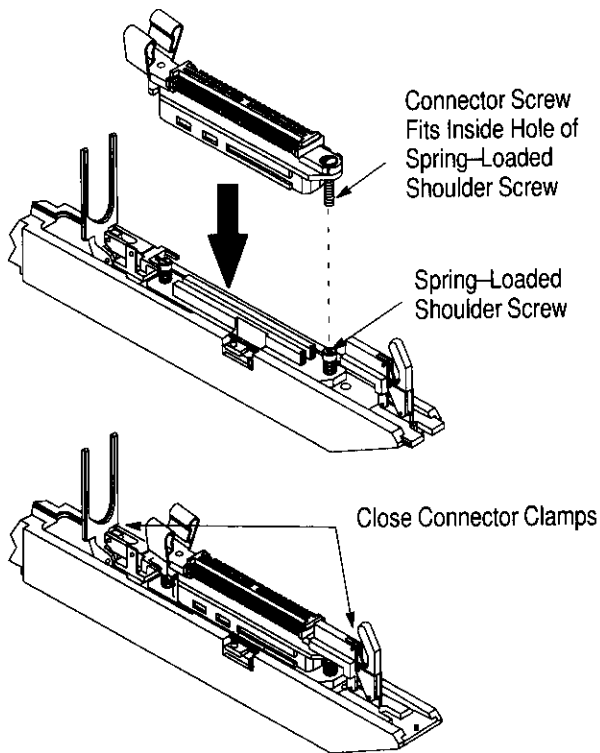

Figure 8
1. Place the connector to be terminated into the connector nest. See Figure 8.
2. Close the inner and outer connector clamps to clamp the connector into the nest. See Figure 8.